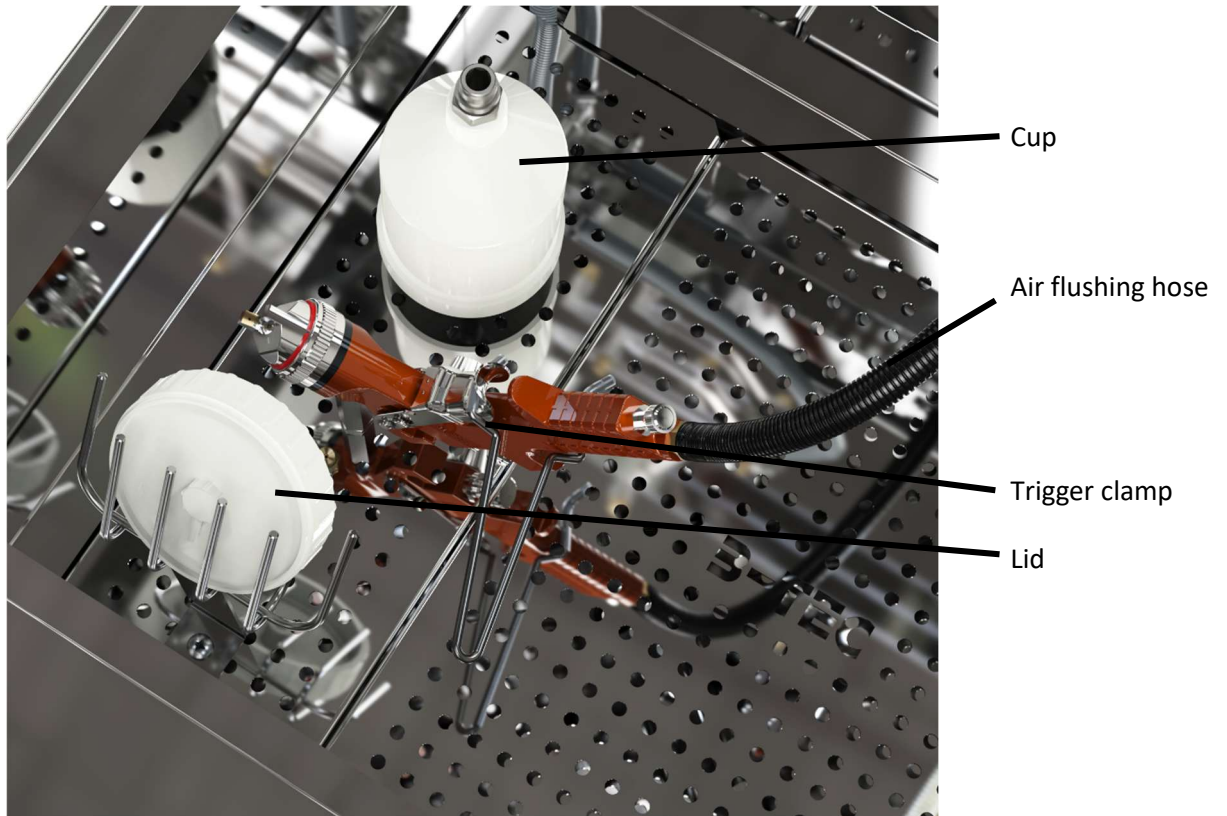
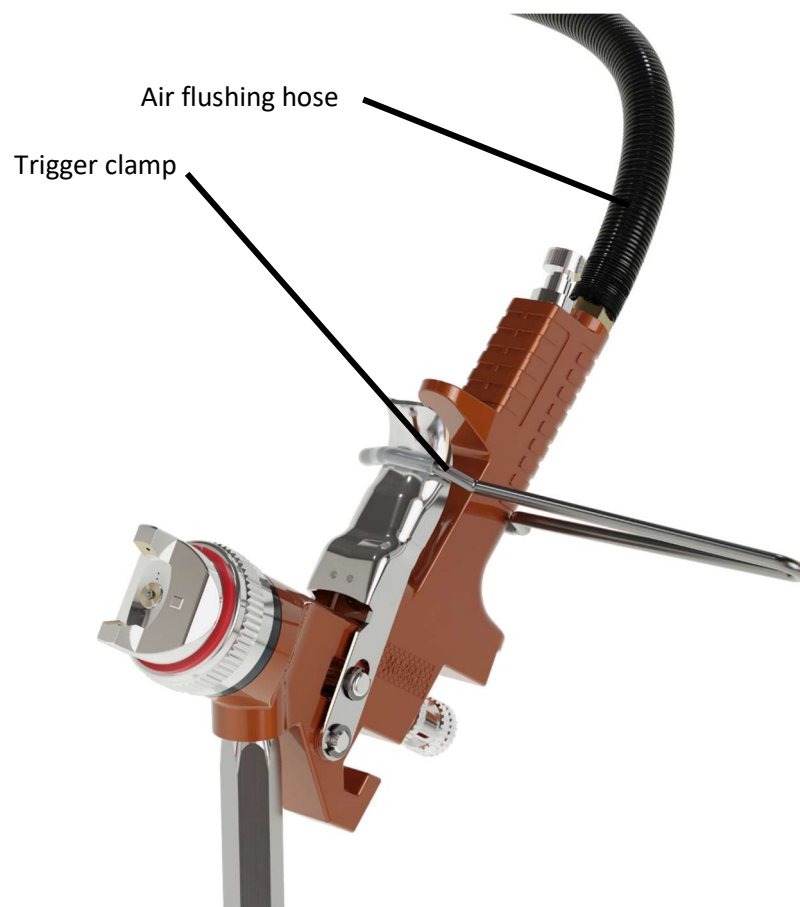

Figure 11-2
Figure 11-3
4. Now the gun is inverted. **Pull back the trigger** and dip it with the trigger clamp. Ensure correct application of trigger clamp. Keep trigger clamp always in cleaning chamber. This ensures that the paint channel is opened for cleaning and remaining paint can drain from cup connection socket. Make sure that the tension clamp is correctly aligned (Figure 11-2 and Figure 11-3)!